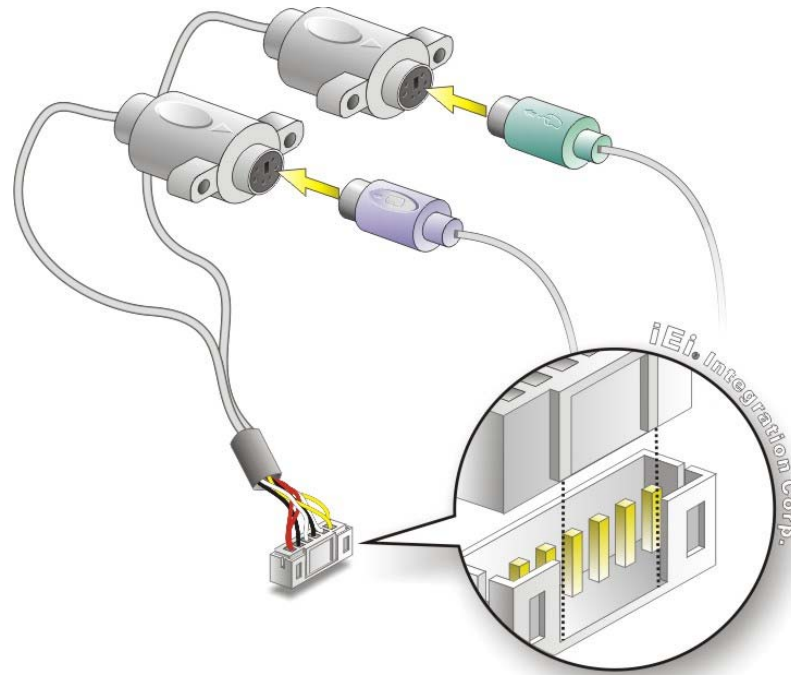

Figure 4-17: Keyboard/mouse Y-cable Connection
- Step 2: Align the connectors.** Correctly align pin 1 on the cable connector with pin 1 on the WAFER-945GSE keyboard/mouse connector. See **Figure 4-17**.
- Step 3: Insert the cable connectors** Once the cable connector is properly aligned with the keyboard/mouse connector on the WAFER-945GSE, connect the cable connector to the on-board connectors. See **Figure 4-17**.